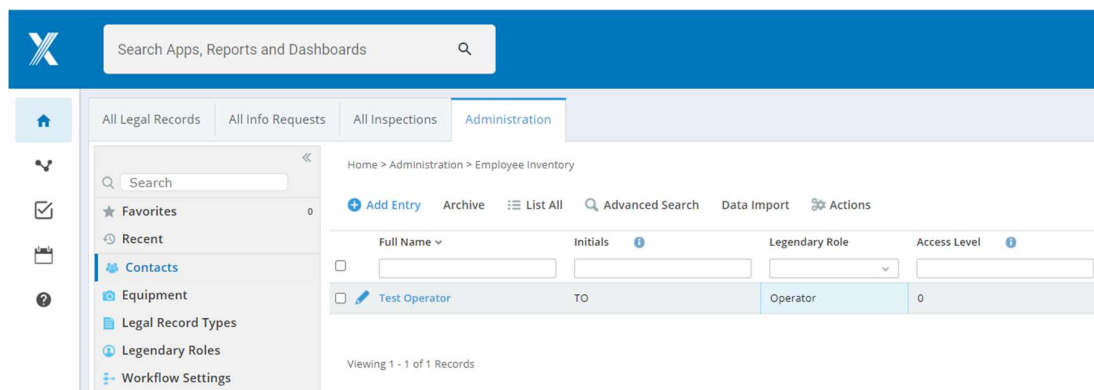

Figure 25: Employee Inventory
1. Go to the Employee Inventory Page (Shown in Figure 25)